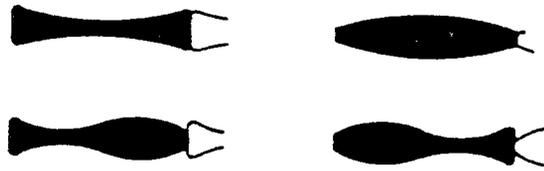

Fig. 30 Incorrect waveform examples
- If the waveform varies as shown in Fig. 30, adjustment becomes required.